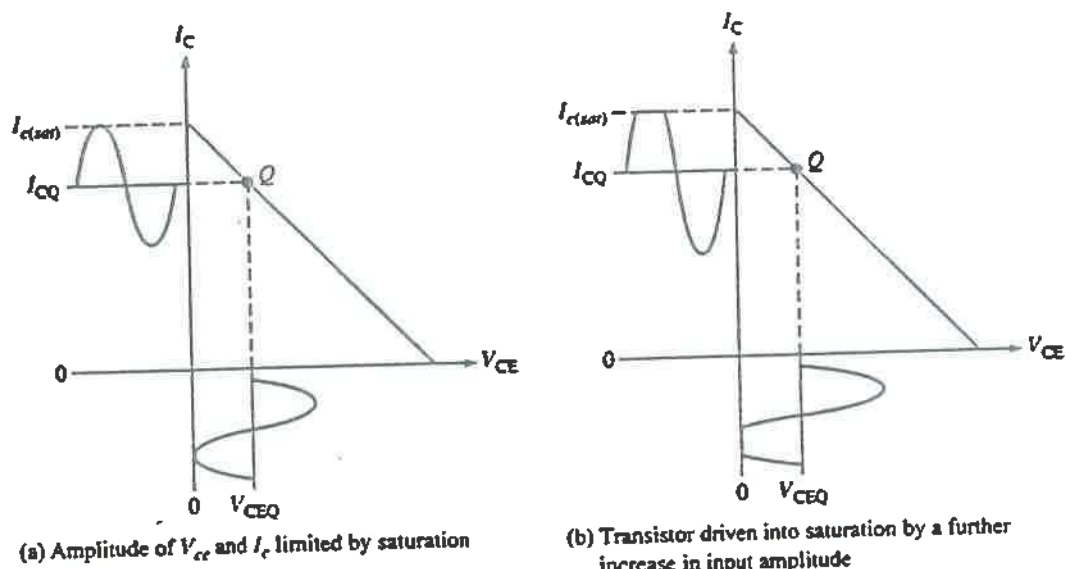

FIGURE 7-5
**Q-Point Closer to Saturation** Figure 7-5(a) shows an ac load line with the Q-point moved away from center toward saturation. In this case,  $V_{ce}$  is limited by saturation. The collector current can swing only up to near saturation and an equal amount below  $I_{CQ}$ . The collector-to-emitter voltage can swing only down to near its saturation value and an equal amount above  $V_{CEQ}$ . If the amplifier is driven any further than this by an increase in the input signal, it will go into saturation, as shown in Figure 7-5(b).